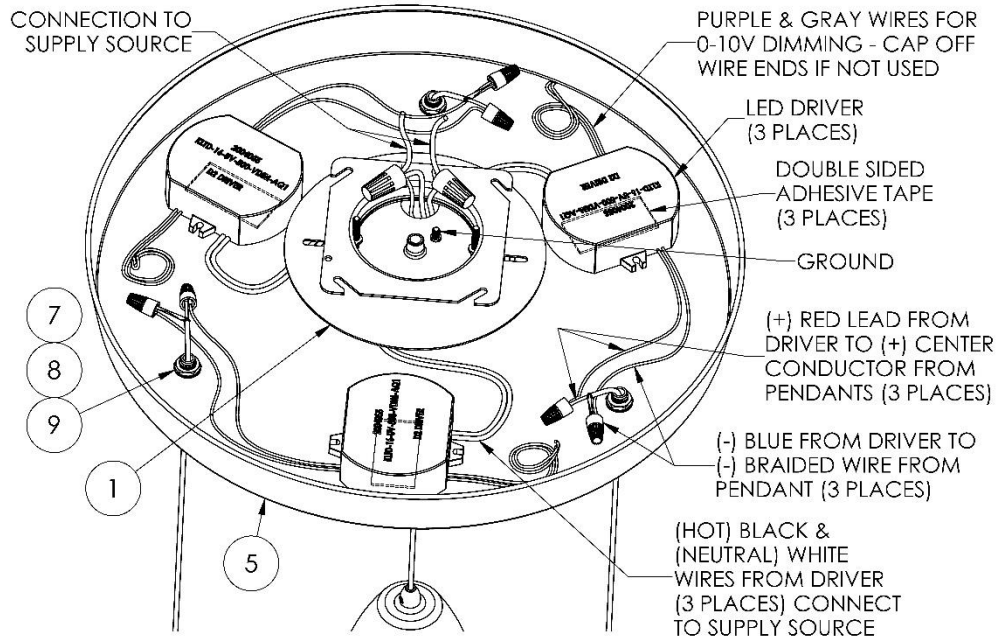

Figure 2
- Double sided adhesive tape is provided to affix three drivers in the canopy. Affix to bottom of driver and driver to inside of canopy (5), without blocking any holes. See **Figure 2**.
- Connect braided wire from each LED pendant (10), to a driver with two blue wire nuts as shown in **Figure 2**: